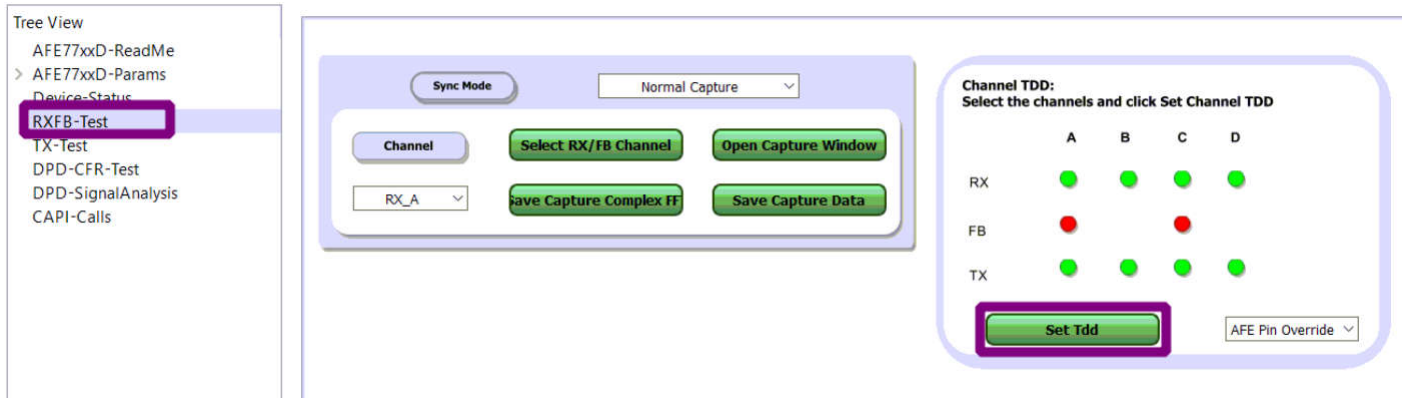

Figure 4-20. TDD Configuration for TX to RX Test
24. To be able to output signals from the TX RF ports and input signals from the RX and FB RF ports, the "Channel TDD" needs to be set for the required channels under test. This is done by going to the "RXFB-Test" page in the AFE77xxD GUI by clicking on "RXFB-Test" on the left side of the software window. In the "Channel TDD" box on this page, click on the red dots to make them green, and finally click the "Set Tdd" button; see Figure 4-20.